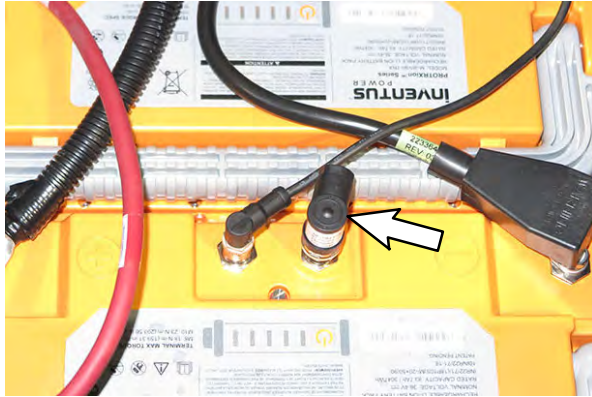
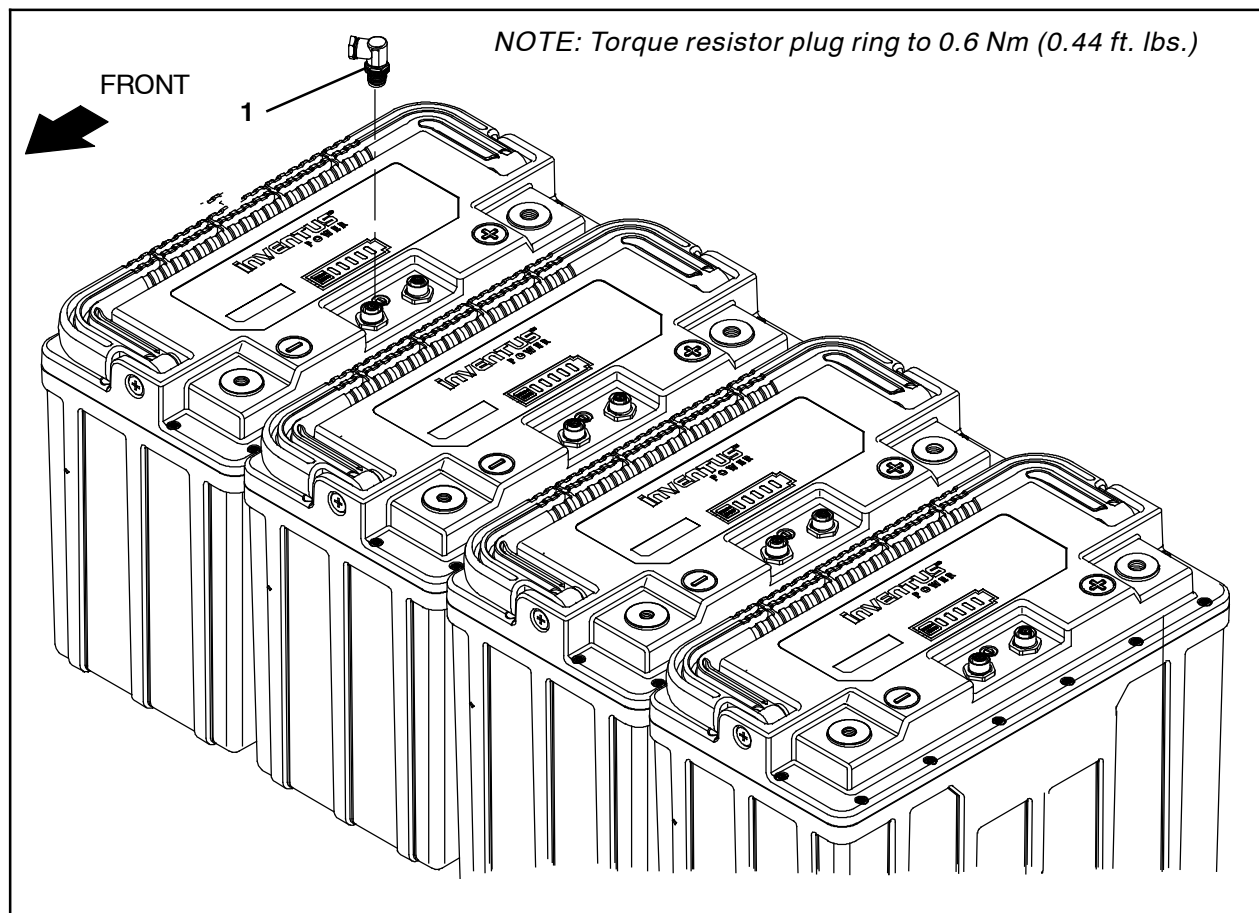

FIG. 13
FIG. 14 - T16AMR
1. Disconnect the resistor plug from the lithium battery communication terminal. Turn resistor plug ring counterclockwise to loosen/disconnect. Discard the removed resistor plug. (Fig. 13/Fig. 14)
2. Connect the new resistor plug (1) to the lithium battery communication terminal where the removed resistor plug was previously located. Turn resistor plug ring clockwise to tighten/connect. Torque resistor plug ring to 0.6 Nm (0.44 ft. lbs.). (Fig. 13/Fig. 14)